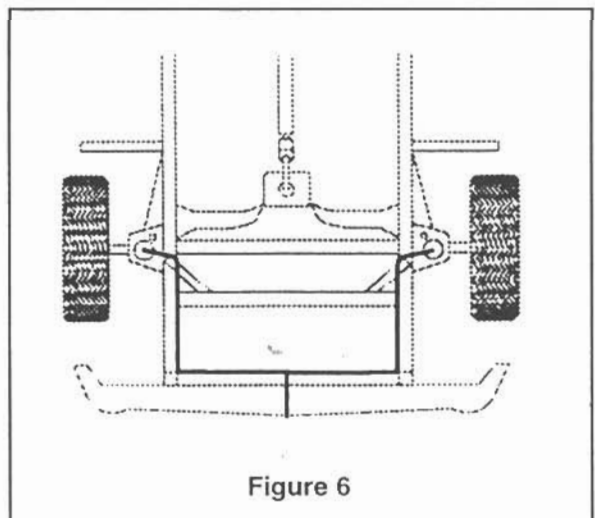

Figure 6
- J. Push the remaining air line over the last fitting on the "T" and route along frame to desired inflation valve location (fig.6). Attach with plastic straps or wire.